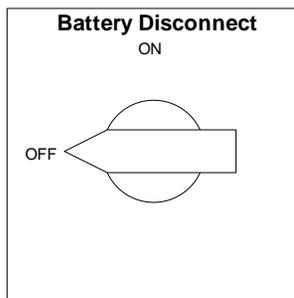
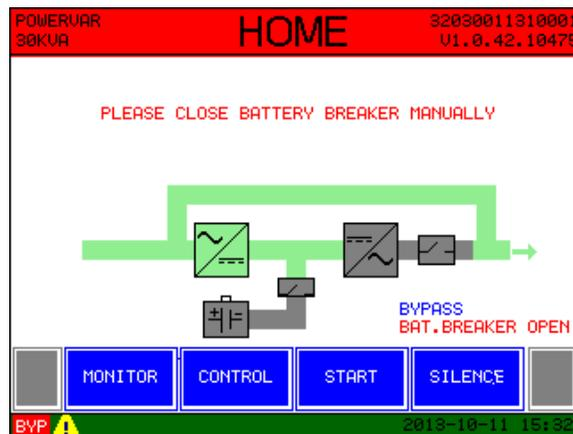

Fig. 4-26
Fig. 4-27
Step 2: Once the offline state is confirmed via touchscreen, the **Battery Disconnect** breaker may be opened (Fig. 4-26). An audible warning will sound, but during this operation the warning may be disregarded (Fig. 4-27 & 4-28).